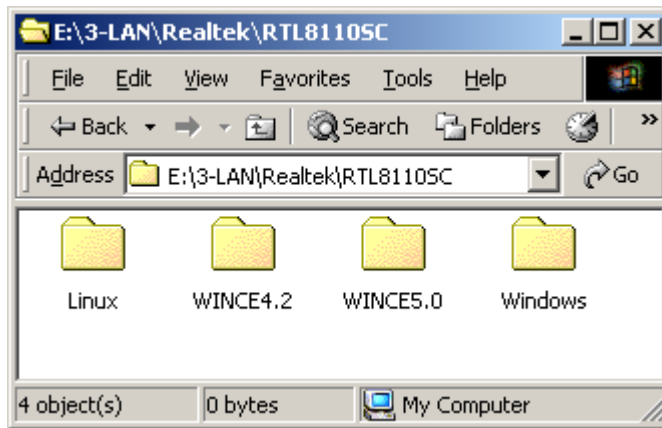

Figure 7-27: RTL8110SC Folder
Step 4: Double-click the **Realtek** folder and a new window opens (Figure 7-27).